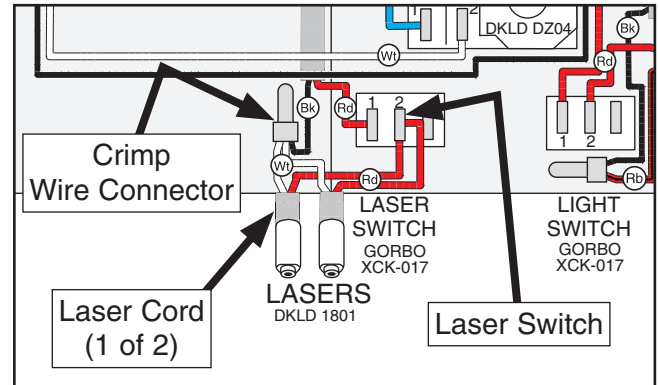

Figure 50. Laser wiring.
4. Remove control panel cover. Find where laser cord wires connect to laser switch and crimp wire connector (see **Figure 50**).